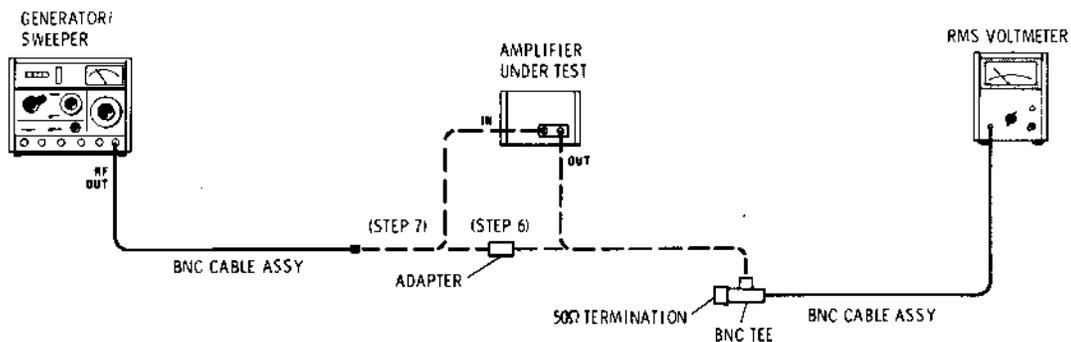

Figure 4
- 6 Disconnect the sweep oscillator and the power meter from the amplifier. Connect the equipment as shown in Figure 4. Set the generator/sweeper for a 10 MHz, CW signal. Set the signal level for -40 dB (read on the voltmeter).
For HP 8447F H64 low frequency preamp, replace the generator/sweeper shown in Figure 4 with HP 3335A synthesizer (or equivalent). Set the synthesizer for a 9 kHz, CW signal. Repeat step 7. Measure, calculate and record the amplifier gain at 9 kHz.